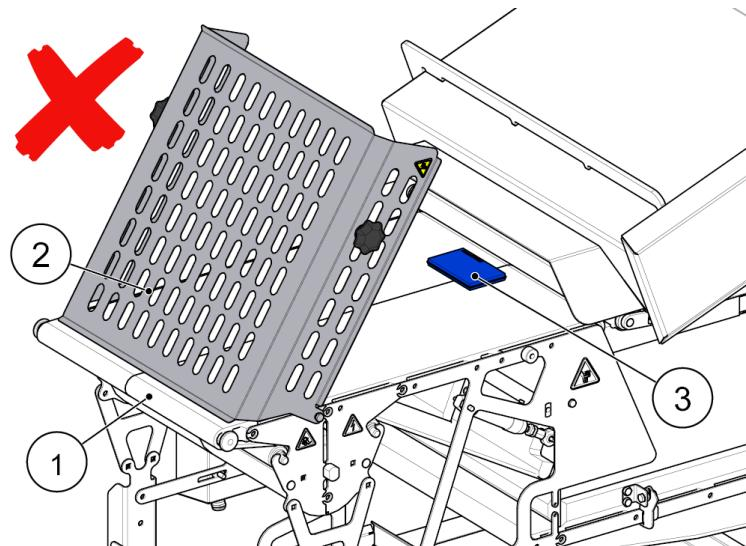
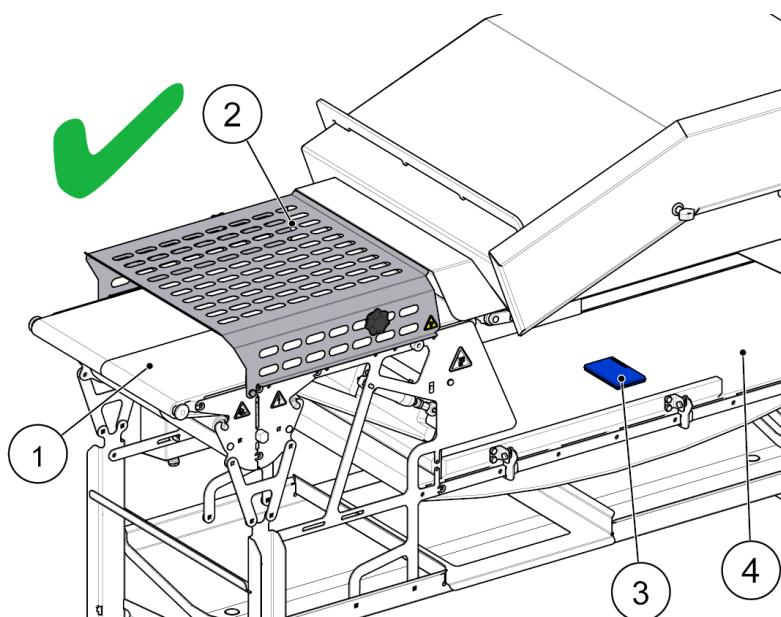

Figure 43 Incorrect position of the safety cover
Figure 44 Correct position of the safety cover
3. Never remove the test block **3** from the outfeed conveyor **1**. The safety cover **2** can not be open. You should manually remove the test block **3** from the return conveyor **4** and with the safety cover **2** closed. Remove the test block when the reject has come to a closed position. If the reject fails, then you should remove the test block at the end of the outfeed conveyor (when it has gone through the safety cover). See Figure 43 and Figure 44.